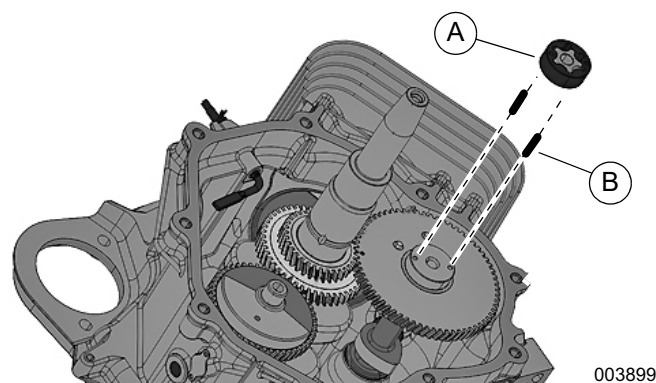

Figure 14-24. Install Oil Pump Gerotor
1. See Figure 14-24. Apply a thin film of assembly lube to oil pump gerotor set (A). Install oil pump gerotor pins (B) and oil pump gerotor set.